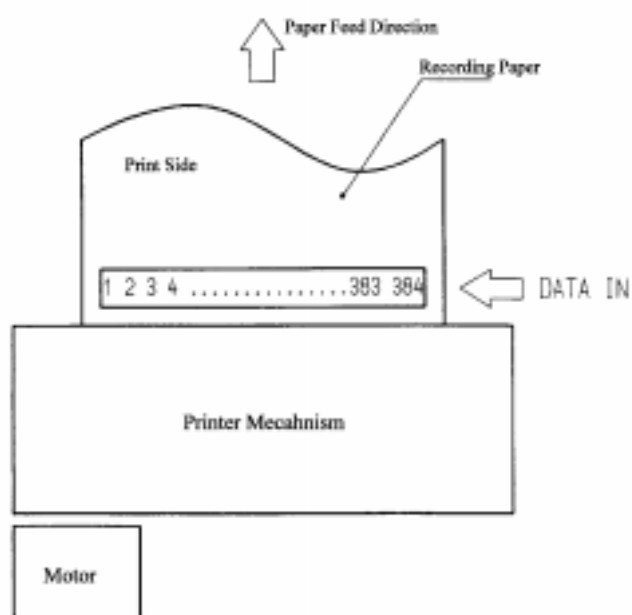

Fig. 3-2 Print data and print position
The data of 384 bits (No. 1 to 384) which is transferred by DATA IN (DI) are printed on the positions shown in Fig. 3-2.